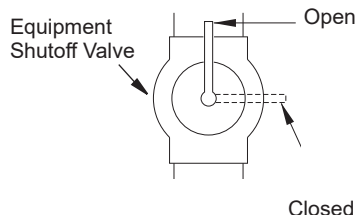

Figure 13 - Equipment Shutoff Valve
1. Close equipment shutoff valve (see Figure 13).